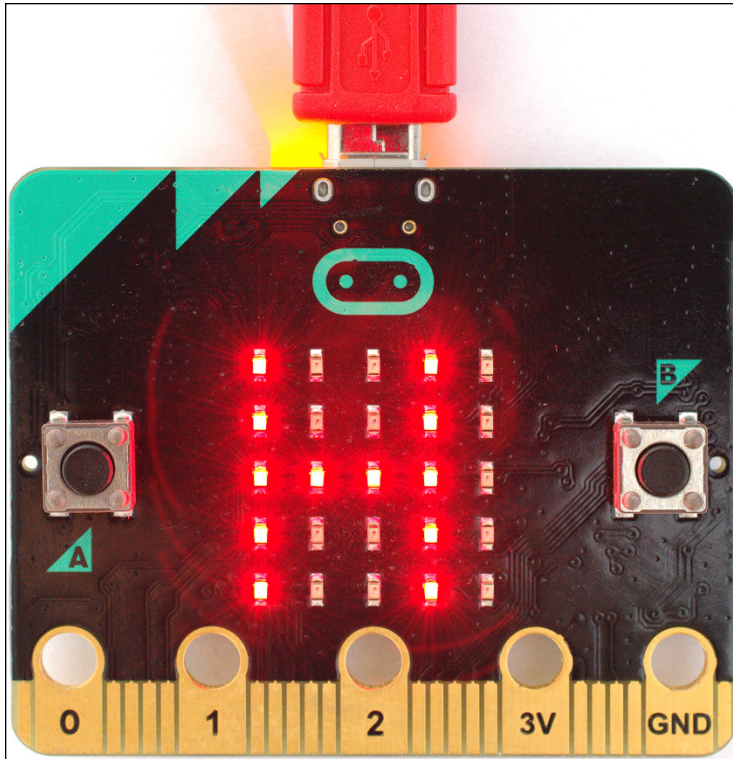

FIGURE 7-4: The BBC micro:bit displaying part of the scrolling message
The syntax highlighting changes the bracket back to its original colour to indicate that the bug is now fixed. Click the Download button to compile and save your program as `microbit.hex`, connect your BBC micro:bit to your computer via the micro-USB port, and then drag the `microbit.hex` file from your Downloads folder to the BBC micro:bit's removable drive as described in Chapter 3. Once the flashing process has finished, the program begins to run and the message "Hello, World!" begins to scroll across your BBC micro:bit's display (see Figure 7-4). Feel free to experiment at this point: change Line 2 to scroll a message of your own, such as your name or your favourite colour, and then click the Download button again to download an updated copy of your program to flash onto the BBC micro:bit and replace the original. If you haven't deleted or moved the original `microbit.hex` file from your Downloads folder, the new copy is called `microbit (1).hex`; if you click the Download button again, the next copy is called `microbit (2).hex`, and so on for each time you download a new version of the program.